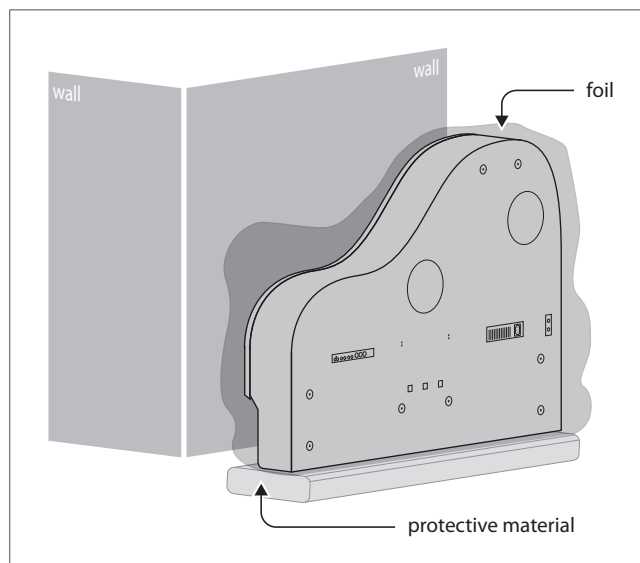

Fig. 2.1: Assembly position
- 1) Place the console 1 on a soft protective material, like poly-styrene foam, near a wall with the front facing towards the floor and the lid facing towards the wall, as shown in Fig. 2.1.